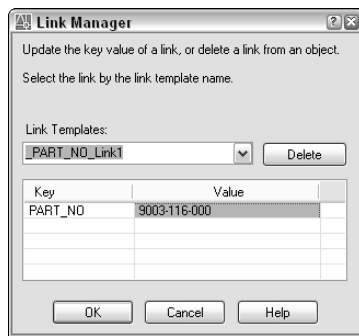

**Figure 20-11:** The Link Manager enables you to edit key value data for its linked object.
1. Choose dbConnect ⇄ Links ⇄ Link Manager to open the Link Manager, shown in Figure 20-11. You can also select a linked object, right-click in the drawing area, and choose Link ⇄ Link Manager.